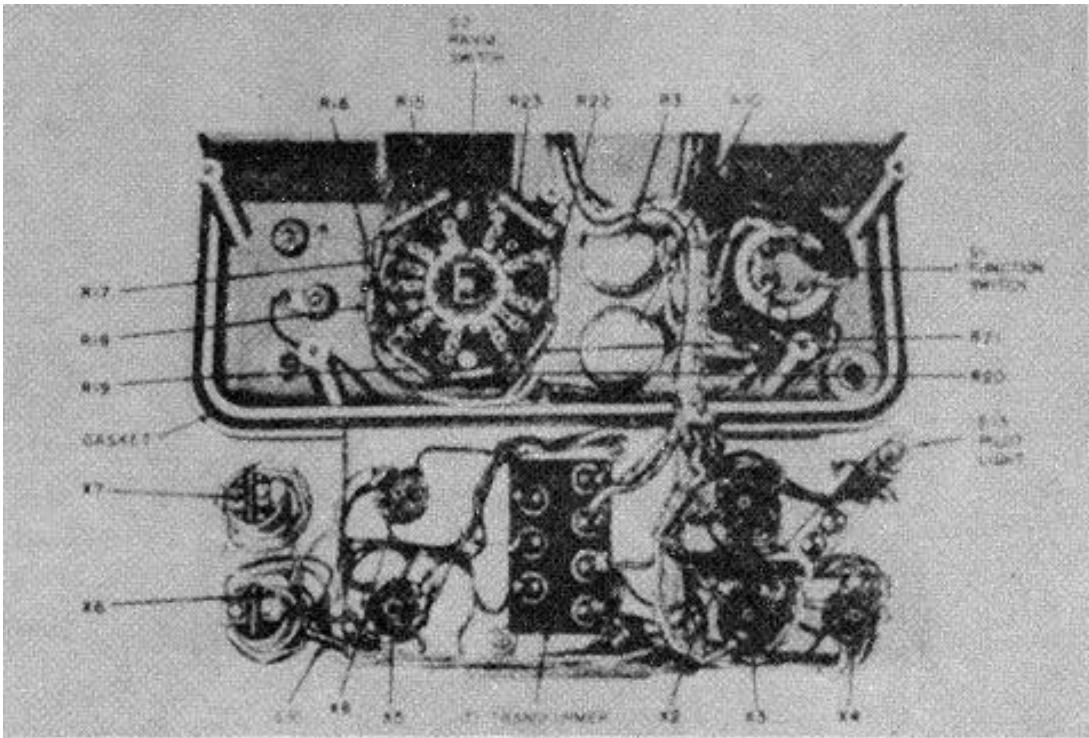

Figure 14. Electronic Multimeter TS-505/U, showing tube and transformer shelf removed.
- c. The metal shelf containing the transformer, tubes, tube sockets, pilot light, pilot light socket, and tube shields should be placed in stock if it is in good condition. If the transformer and tube sockets are undamaged, unfasten the shelf (fig. 14) by removing the two screws and the two studs which hold it in place. Place the complete unit, including cables, in stock for future use. If the metal deck is so badly bent that it cannot be salvaged, remove transformer (T1), pilot light, pilot socket, and tube sockets and place them in stock for re-use.